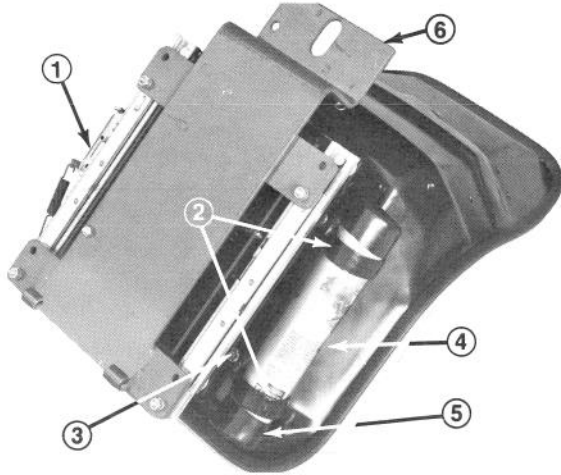

Figure 12
9. Assemble seat suspension assembly to four capscrews on seat bottom and install a lockwasher and flatwasher at all four locations. Install an R-clamp over right front and right rear capscrews of seat and install and tighten nuts to secure all four locations (Fig. 12). Install manual tube into R-clamps, insert manual into tube, and place cap over tube end (Fig. 12).
10. Mount seat support over four threaded studs at the bottom of seat suspension assembly and secure in place with lockwashers and nuts (Fig. 12).